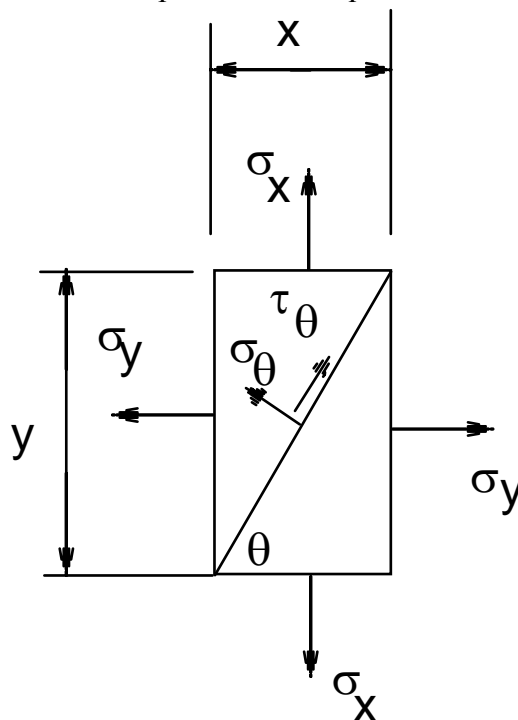

Figure 10
- a) Figure 10 shows an element of material with direct stresses on the x and y planes with no shear stress on those planes. Show by balancing the forces on the triangular element that the direct and shear stress on the plane at angle θ anti-clockwise of the x plane is given by